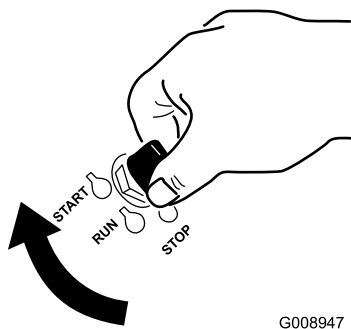

Figure 17
1. Turn the ignition key to the Start position (Figure 17). When the engine starts, release the key.
- Turn the ignition key to the Start position (Figure 17). When the engines starts, release the key.